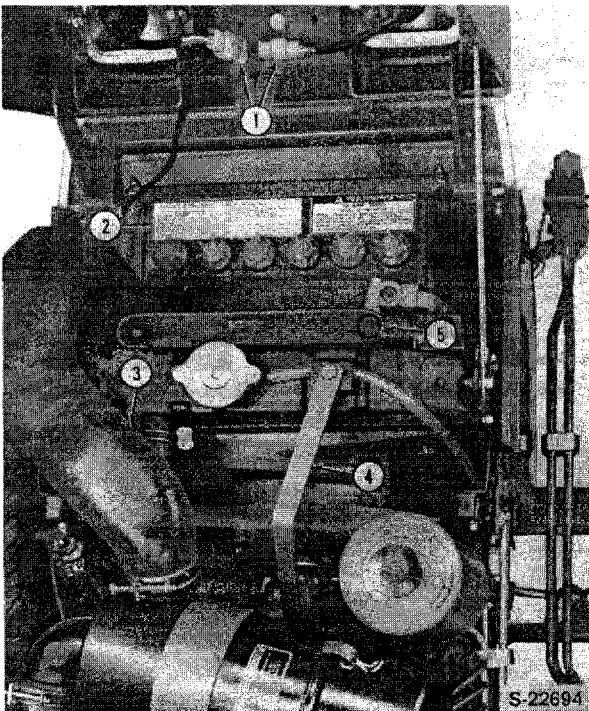

Figure 93
2. Disconnect the headlight wiring connector, Figure 93.
3. Remove the battery, Figure 93.
6. Remove the air cleaner inlet tube, Figure 93.
7. Remove the radiator top brace, Figure 93.
11. If equipped with the HST cooler, disconnect the HST cooler lines from the cooler, Figure 93.